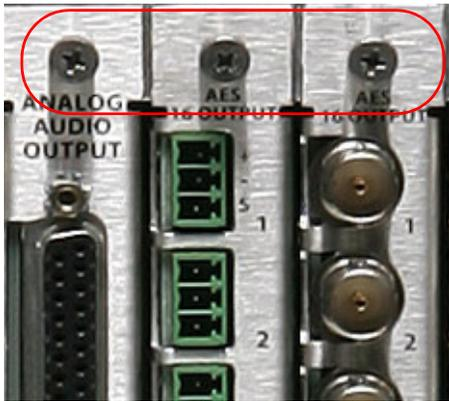

Figure 3-12. Retention Screws on Backplanes
- 3 Insert the backplane into the frame, applying gentle pressure at the top of the backplane to ensure the connector is fully mated with the motherboard. Use a #1 Philips screwdriver to tighten the two spring-loaded card retention screws (Figure 3-12).